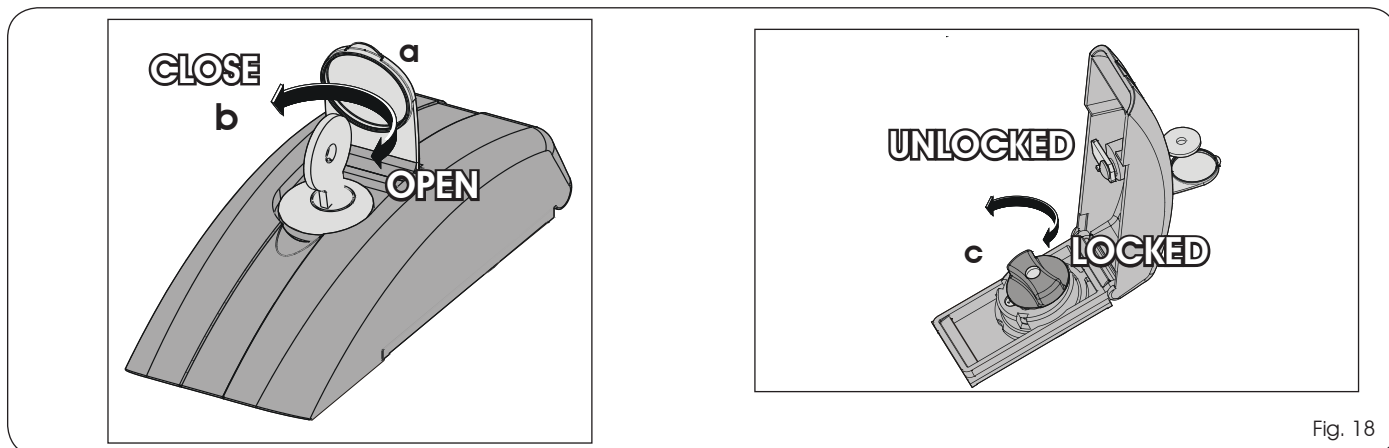

Fig. 18
1. Lift the protection lid (Fig. 18, Ref. a) and insert the key in the lock (Fig. 18, Ref. b).
2. Turn the key 90° clockwise to open the cover and lift it.
3. Turn the release knob (Fig. 18, Ref. c) counter-clockwise until it stops.